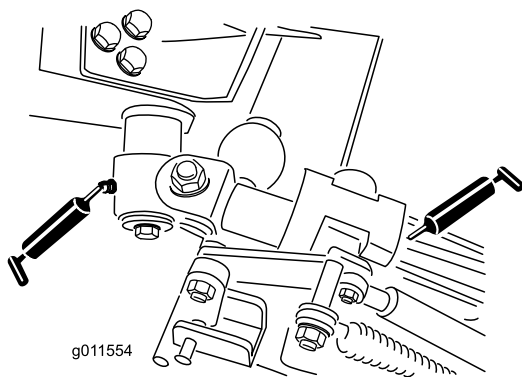

Figure 69
- 2 bell-crank-pivot bushings (Figure 69)
- 4 rear arm bushings (Figure 69)